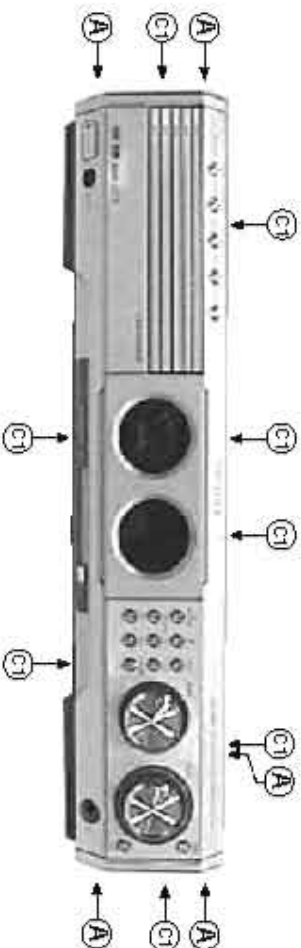

Figure 1
- 1) Loosen the 9 screws to dismantle the Top Cover (pos 252) - 2 screws on each side - 5 screws on the Rear Panel (pos 251).
- 2) Loosen 5 screws A and 8 catches C1 to slide the Front Panel assembly (pos 101, 102, 103, etc) as per figure 1.